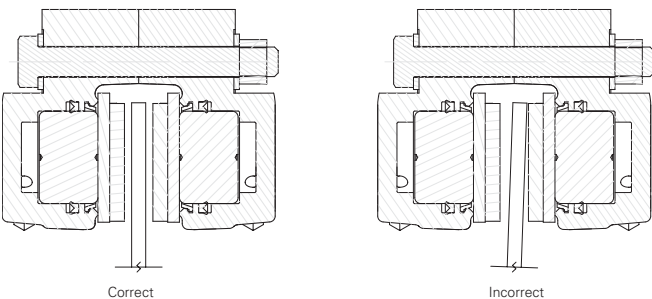

Figure 3
- 2.2.1 It is very important that the mounting bracket be properly aligned with the mounting surface of the brake. When proper alignment is achieved the surface of the disc should be parallel with the adjacent surface of the brake shoe. See Figure 3. For proper operation and service life, alignment of the mounting surface to the shaft of the disc gear should be held within specified tolerance limits.